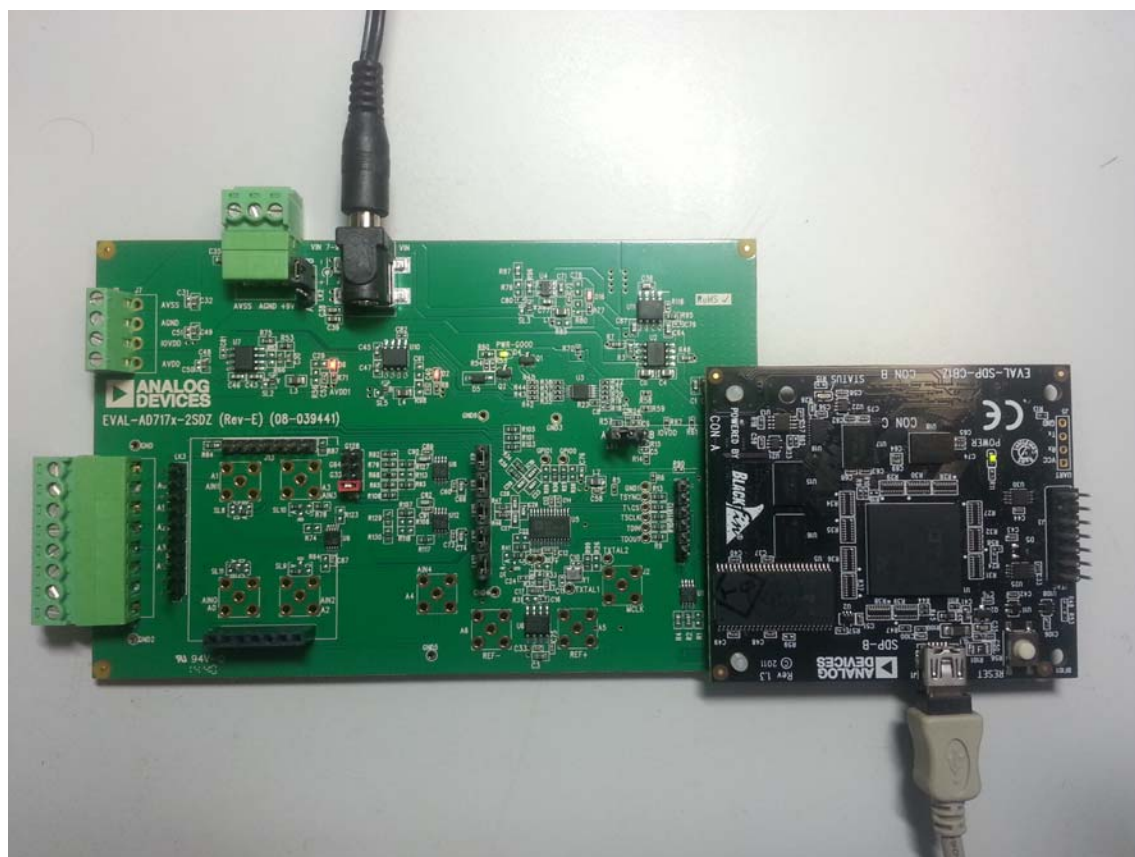

Figure 2. Hardware Configuration, Setting Up the EVAL-AD7177-2SDZ Evaluation Board
2. Connect the EVAL-SDP-CB1Z board to the EVAL-AD7177-2SDZ evaluation board, as shown in Figure 2.
4. Connect the external 9 V power supply to Connector J5 of the evaluation board as shown in Figure 2. Set Link LK2 to Position B.